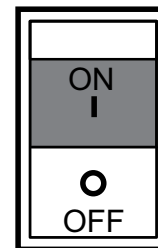

Figure 21. Main Circuit Breaker (ON)
- Place main circuit breaker (Figure 21) in the **ON** position.